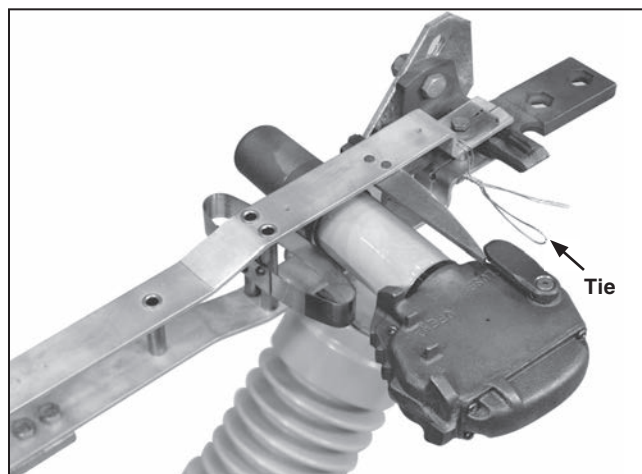

Figure 31. Removing the tie at the stationary main contact assembly.
STEP 29. Remove the ties holding the switch blades to their stationary main contact assemblies. See Figure 31.